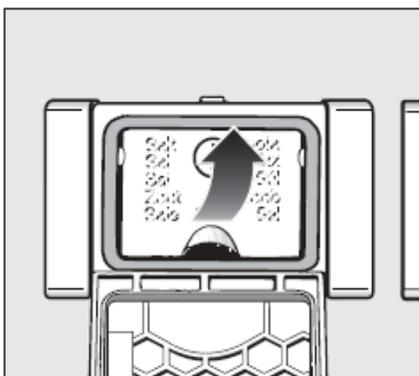

Figure 3-3: Salt Container Release
2. Open salt reservoir by pressing the button in the direction of the arrow until the flap springs open - as shown in Figure 3-3.